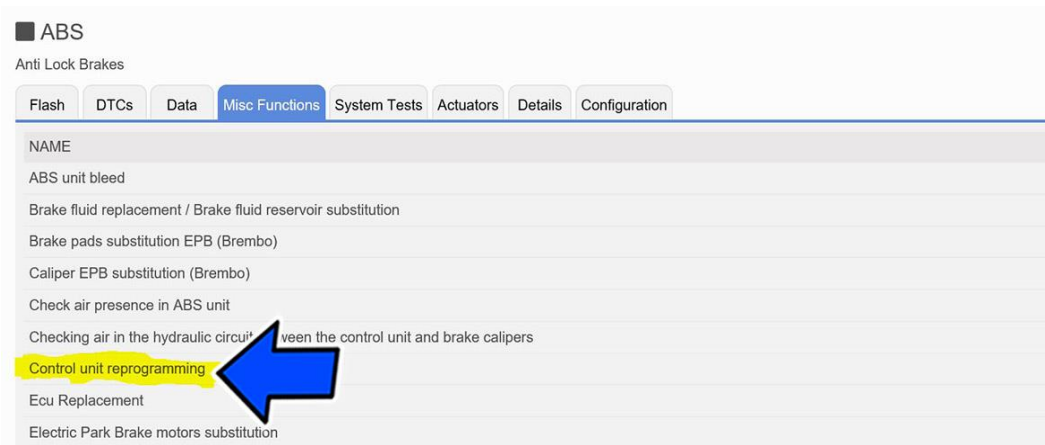

Figure 11 - Control Unit Reprogramming
- 32. From the ABS “Misc. Functions” tab, select and run the “Control Unit Reprogramming” routine (Figure 11).